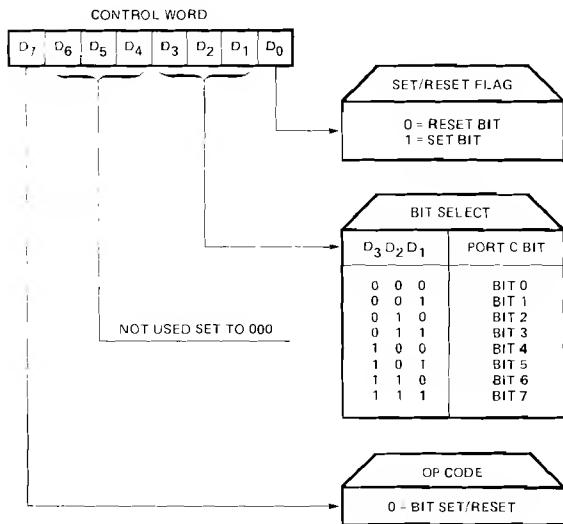

Figure 7. Bit Set/Reset Control Word
When the opcode field (Bit 7) of the control word is equal to a zero, the control word is interpreted by the 8255 as a Port C bit set/reset command word (see Figure 7). Through the use of the bit set/reset command, any of the 8 bits on Port C may be independently set or reset. Note that control word bits 6–4 are not used. Bits 6–4 should be set to zero.
*Control word (see Figure 7).*
The control words shown were constructed from the standard bit set/reset format shown in Figure 7.